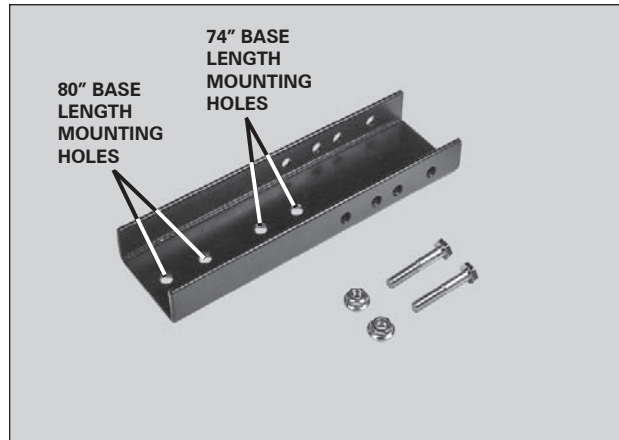
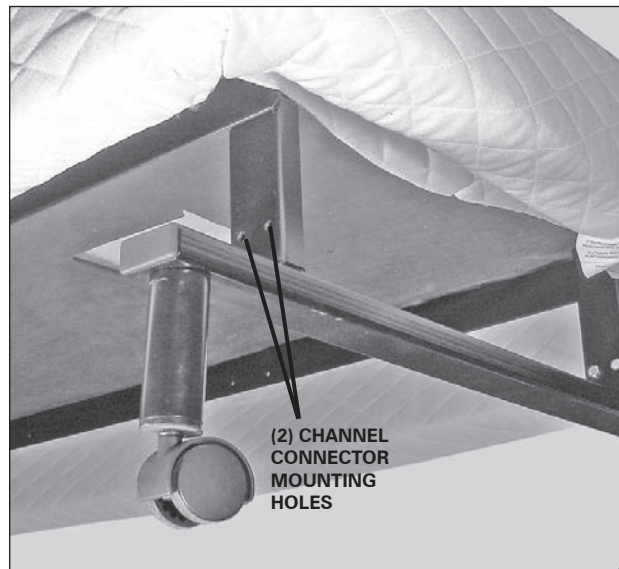
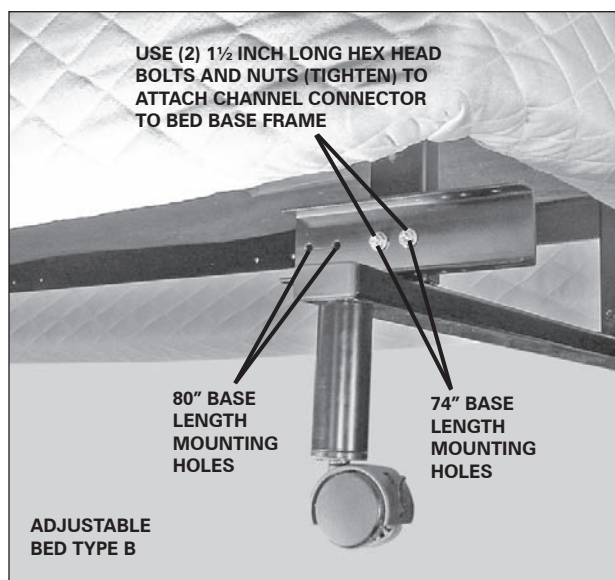

FIGURE 18: Channel connector kit. (Used with adjustable bed base Type B. See accessory sheet).
FIGURE 19: Channel connector mounting holes.
FIGURE 20: Bed base Type B channel connector attachment.
- c. For bed base Type B, locate channel connector kit (**FIGURE 18**). On one side of bed base frame, locate (2) holes for channel connector mounting (**FIGURE 19**).
- d. Position channel connector so that the flat side is flush against bed base frame. Attach channel connector to bed base frame using (2) 1½ inch long hex head bolts/nuts (**FIGURE 20**). Tighten bolts. **Note: For beds with 74" base length, use inner mounting holes. For beds with 80" base length, use outer mounting holes (FIGURES 18 and 20).**